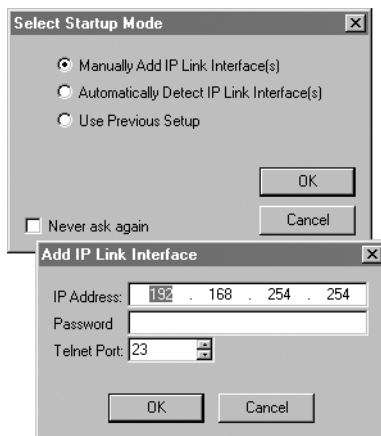

Figure 5-15 — Select Startup Mode window
If the Select Startup Mode window (figure 5-15) **does not** appear, proceed to step 4:
2. If the Select Startup Mode window (figure 5-15) appears: